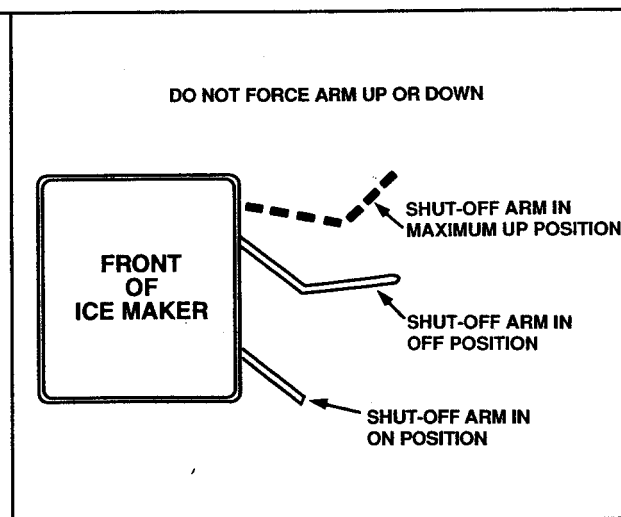

Figure 25
4. To stop ice maker operation at any time, gently raise the shut-off arm to the OFF position. See Figure 25. *Do not force the arm up.*
To avoid damage to the ice maker, do *not* raise the shut-off arm past the maximum position. See Figure 25.